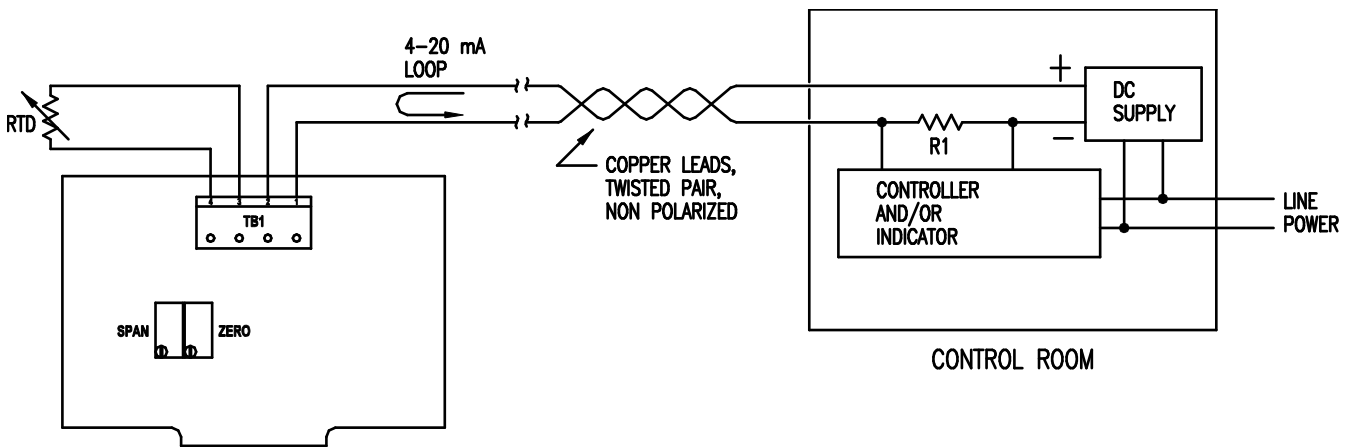

Figure 2
4. Remove transmitter cover and connect power wires to the transmitter by 2 screw terminals located near the edge of the circuit board (Figure 2). Power supply must not exceed 35 VDC.